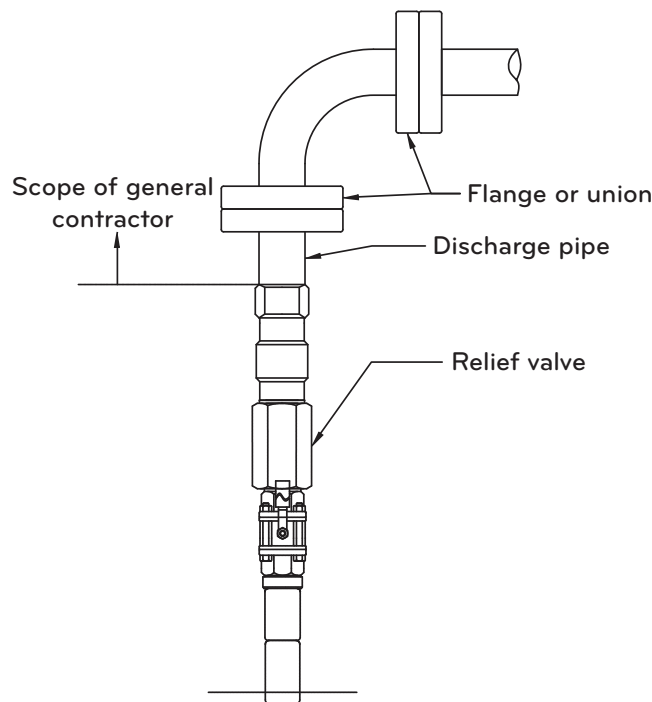

Figure 28. How to install the outdoor discharge pipe of the safety valve
- 1) When installing the Centrifugal Chiller, the safety valve installed on each Centrifugal Chiller must be guided to discharge the gas outdoor based on the regulation provided in "Freezer Manufacturing Facility Standard and Technical Standard" pertain to Article 8 of High Pressure Gas Safety Control Code Ordinance as shown in Figure 28.
- 2) When connecting the discharge pipe, use the flange or union as shown in Figure 28. so that it is easy to replace the relief valve and set up the connecting pipe in perpendicular way.